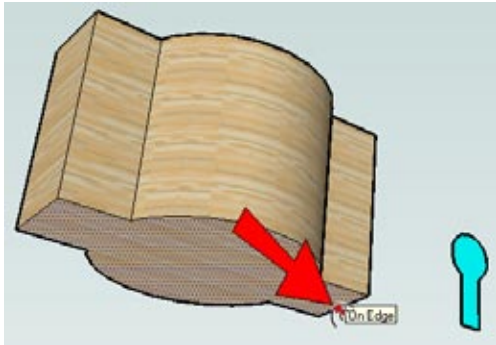

Figure 2-44
4. To see how the offset path is created, activate Offset. You'll create the offset from the bottom of the building, which should also be a single face (no dividing edges). When you click this face, click somewhere on the edge closest to the Follow Me face (Figure 2-44).